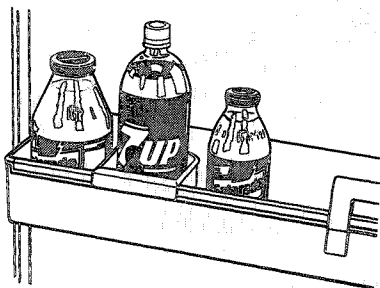

Figure 25
- Position bottle hugger in any deep door bucket or shelf. See Figure 25.